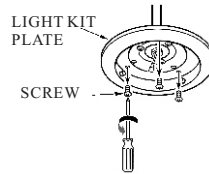

FIG.14
4. Remove the three outside screws from the light kit plate. (see Fig.14)